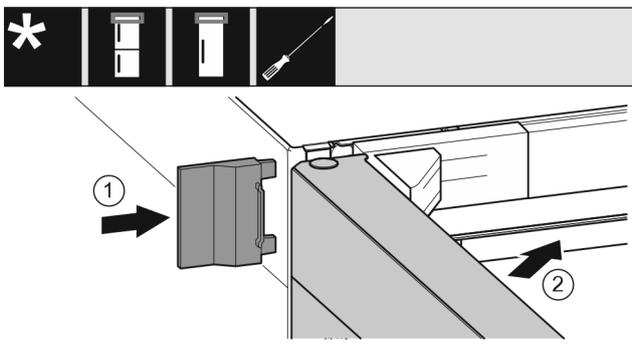

Fig. 24
- ▶ Slide on the outer cover. *Fig. 24 (1)*
- ▶ Close the upper door. *Fig. 24 (2)*